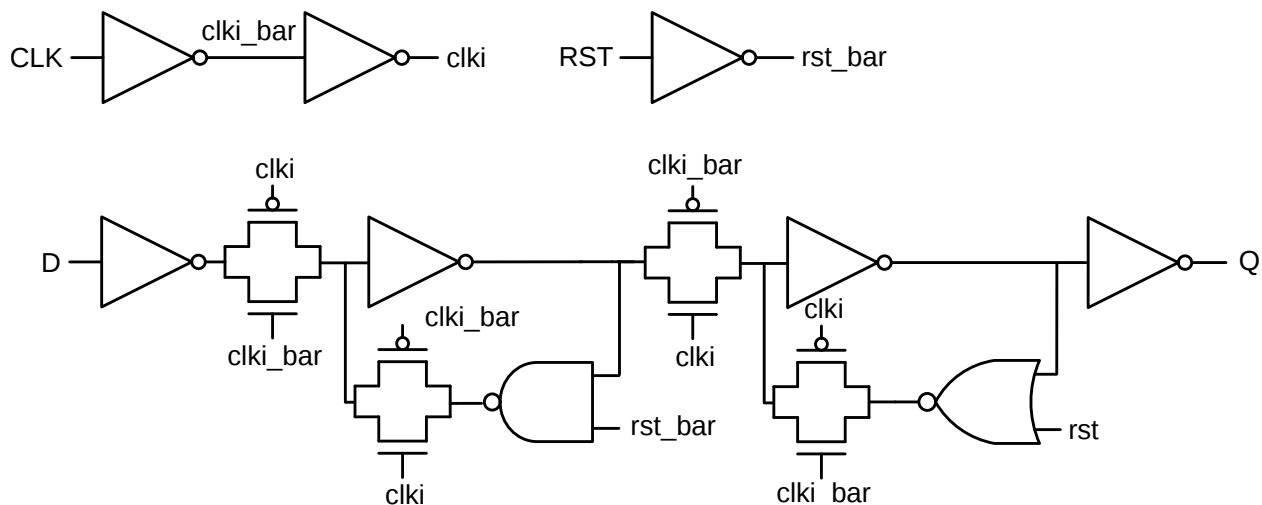
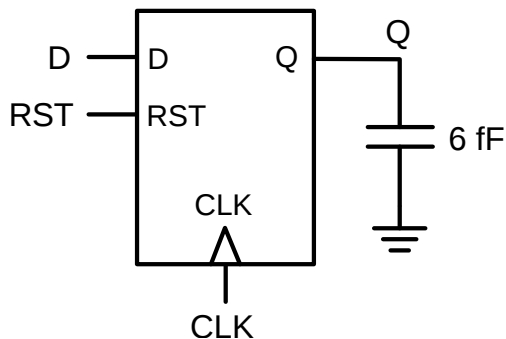
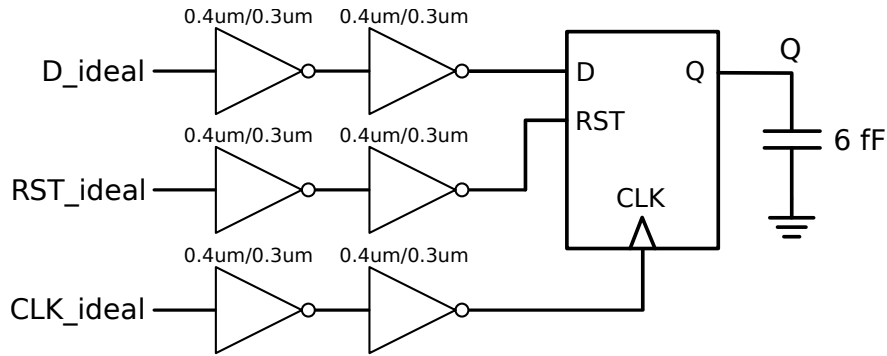

Figure 1
Figure 2
Figure 3
a. Create the schematic for the master-slave flip flop in Figure 1, and use it to build the circuit in Figure 2. Students are free to choose device sizes, create additional standard cells, and incorporate multiple levels of hierarchy (so long as the top-level pins and circuit name are unchanged). Call the flip flop DFAR ("D-flip flop with asynchronous reset"), and the circuit in Figure 2 loaded_flip_flop.
b. Collect the measurements listed in Table 1 for the loaded_flip_flop circuit, **with VDD at both 0.8V and 1.2V**, and a **clock period of 2n**. When making measurements, buffer your ideal HSPICE voltage inputs as shown in Figure 3 to mimic realistic inputs. Measurements involving D, RST or CLK should be made at the actual D, RST and CLK pins - for example, t_{cq} refers to the elapsed time from when CLK (as opposed to CLK_ideal) reaches 50% to when Q reaches 50%. Be sure to remove the input buffers and turn in only the .ckt file for Figure 2 after completing the measurements. Note: Conventionally, the size of an inverter is written as W_{pmos}/W_{nmos} .
- a. Create the layout for the DFAR circuit in Figure 1 from Part 1. Students are encouraged to create new cells to support different gate sizes and drive strengths, as well as incorporate multiple levels of hierarchy. As design complexity grows, it is increasingly important to use hierarchy not only for schematic and layout readability, but also for ease of verification. Using a divide-and-conquer approach for DRC and LVS can easily make the difference between a single-pass inspection over a few dozen layout shapes, and multiple inspections over hundreds of shapes. *In order to implement Part 5 of this CAD effectively, the flip flop you make now must be no wider than 5.0 um. Standard cells can be stacked vertically by flipping one and overlapping the vdd or vss regions.*